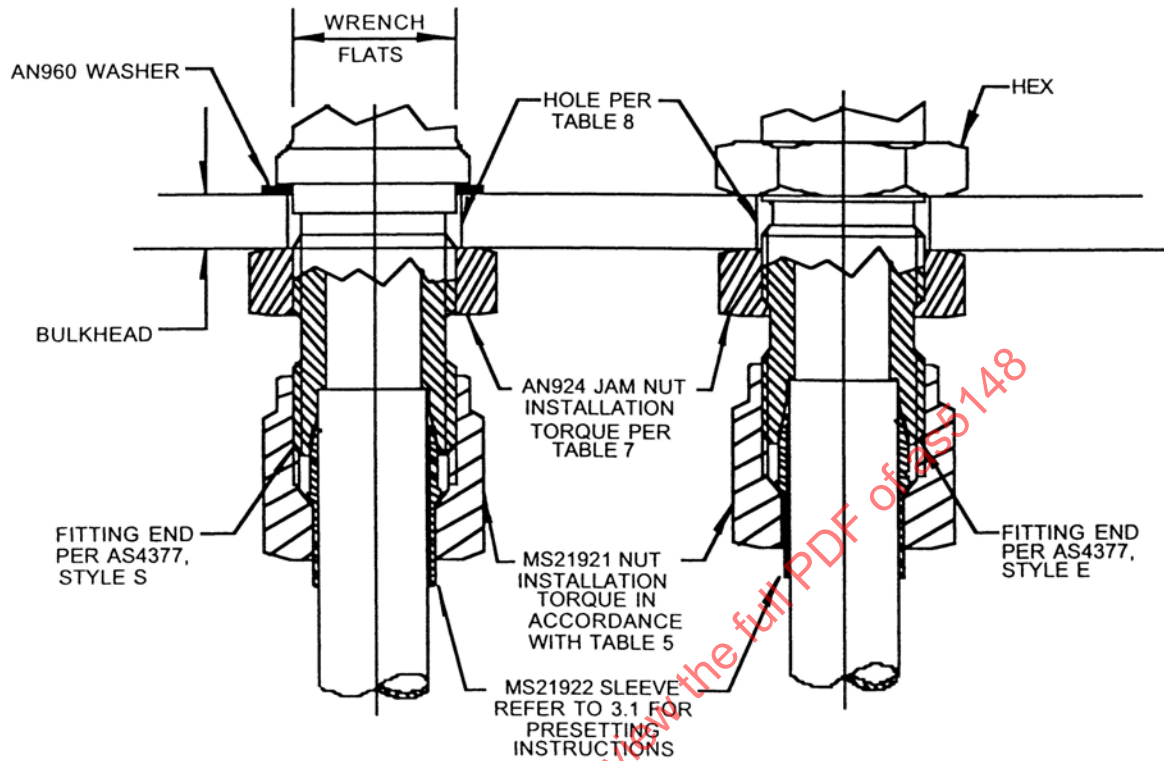

FIGURE 4 Bulkhead Fitting Installation
4.1 Refer to Figure 4 for example of installation.
- 4.3.1 Refer to Figure 4 for example of installation.